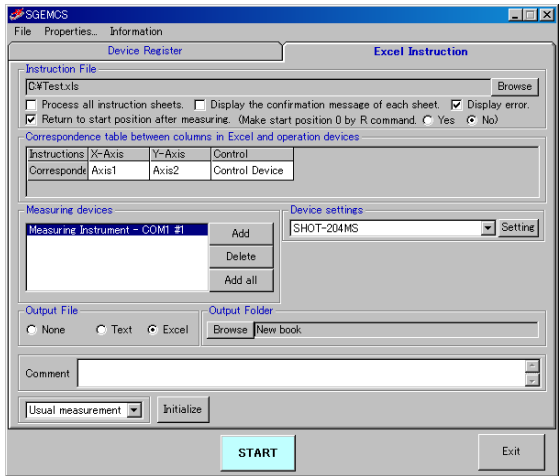

Fig 4-43 Excel Instruction dialog
- \* See figure 4-43. Column D is the blank column, and column C, at the left, is the measurement column. SGEMCS recognizes the entries in further left columns (A and B) as coordinate values or control commands.
- \* In figure 4-43, cells on the first row are assigned to X-axis, Y-axis and measurement. Enter any of characters, symbols or numeric values, but be sure to begin with the first row.
- R : Designate the position as the origin in logical coordinate system, and assign the coordinate (0).